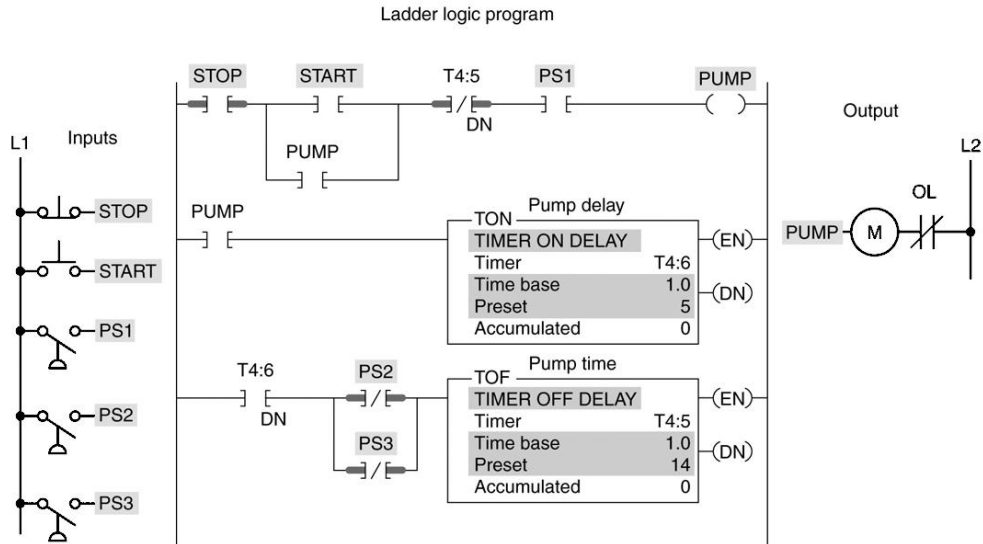

Figure 7-25 Fluid pumping process program for assignment 9.
9) The program of Figure 7-25 is described in the text and uses both on-delay and off-delay timers as part of a fluid pumping process. Prepare an I/O connection diagram and ladder logic program for the process. Use addresses that apply to your PLC. Enter the program into the PLC, and prove its operation.